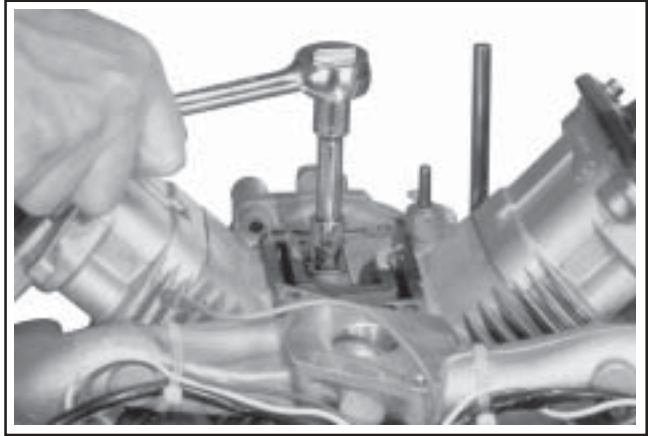

Figure 11-56. Installing Breather Reed Assembly.
3. Install the breather reed and breather reed retainer onto the crankcase and secure with the hex flange screw. Hold the assembly in line when tightening. Torque the screw to **3.9 N·m (35 in. lb.)**. See Figure 11-56.